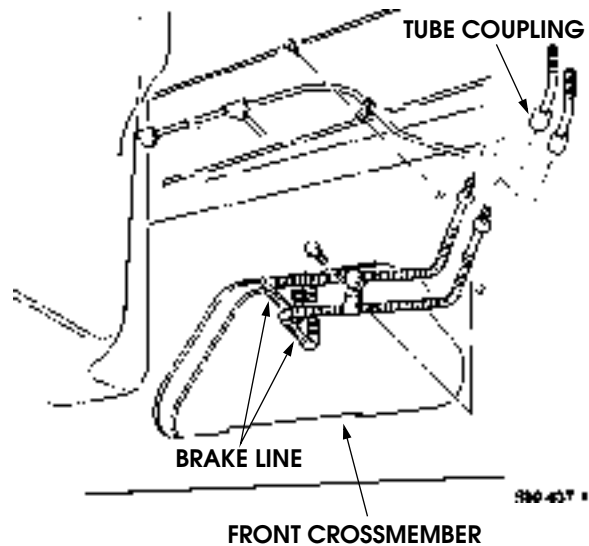
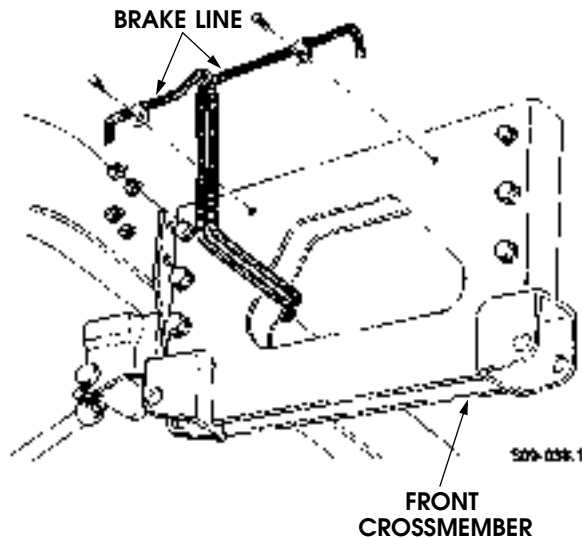
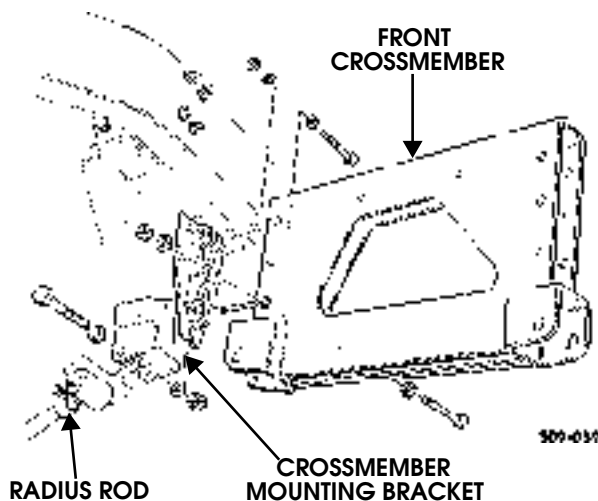

Figure 9-148: Brake Line and Tube Coupling Location
Figure 9-149: Brake Line and Vent Lines Location
Figure 9-150: Front Crossmember Assembly Replacement
5. Remove three bolts and clamps securing brake line and two vent lines to front crossmember (Figure 9-148) and (Figure 9-149).
7. Remove two locknuts, washers, bolts, washers, and two radius rods from crossmember mounting brackets (Figure 9-150).
- Install two crossmember mounting brackets on front crossmember with six washers, bolts, washers, and locknuts. Tighten locknuts to 90 lb-ft (122 N•m) (Figure 9-150).
- Install brake line on tee and tube coupling (Figure 9-148) and (Figure 9-150).